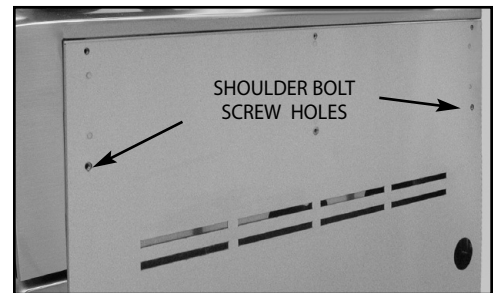

Fig. 20
1. Screw shoulder bolts (2) into the bottom screws on the side of the cart (Fig. 20 and 21). Tighten with 5/32 Allen wrench.